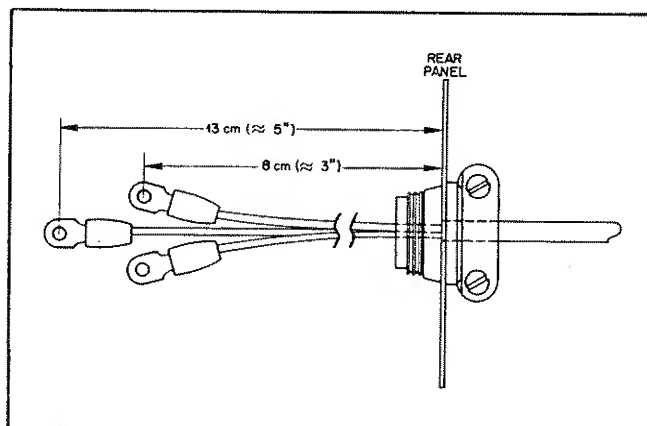

Figure 2-2. Power Cord Preparation
- Prepare the power cord as shown in Figure 2-2 and insert the cord through the strain relief on the AC Filter Assembly.